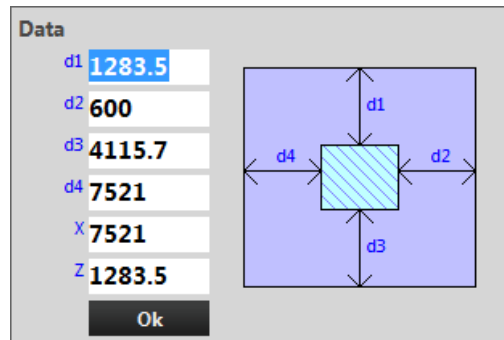

Figure 9.1 : Object movement with the dynamic dimensions.
- 3 **Q** Dynamic dimensioning: it displays the minimum distances between the selected box and the other ones on the order. When this function is active it is possible to move the objects, which is done by selecting the dimensions, pressing the SPACE bar will open a window where to insert the new dimensions, see figure 9.1.